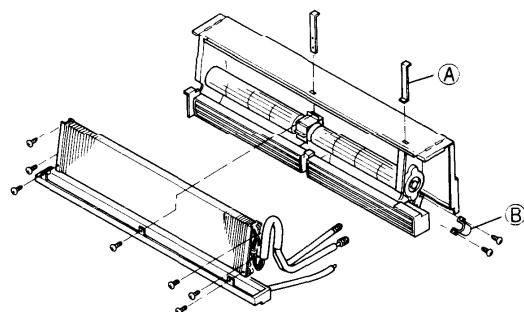

Fig. D-4
- 4) Remove the four mounting metals (A).
- 5) Remove the refrigerant tubing holder (B).
- 6) The evaporator and drain pan can be pulled out after removing the screws shown in Figure D-4.